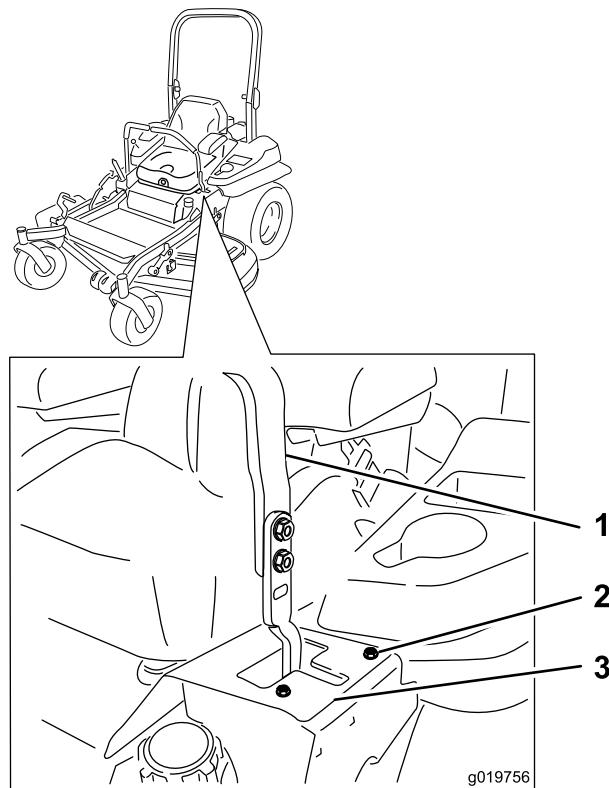

Figure 61
8. Tighten the stop plate (Figure 61).
6. If it tracks to the right, loosen the bolts and adjust the left stop plate rearward on the left T-slot until the machine tracks straight (Figure 61).
7. If it tracks to the left, loosen the bolts and adjust the right stop plate rearward on the right T-slot until the machine tracks straight (Figure 61).